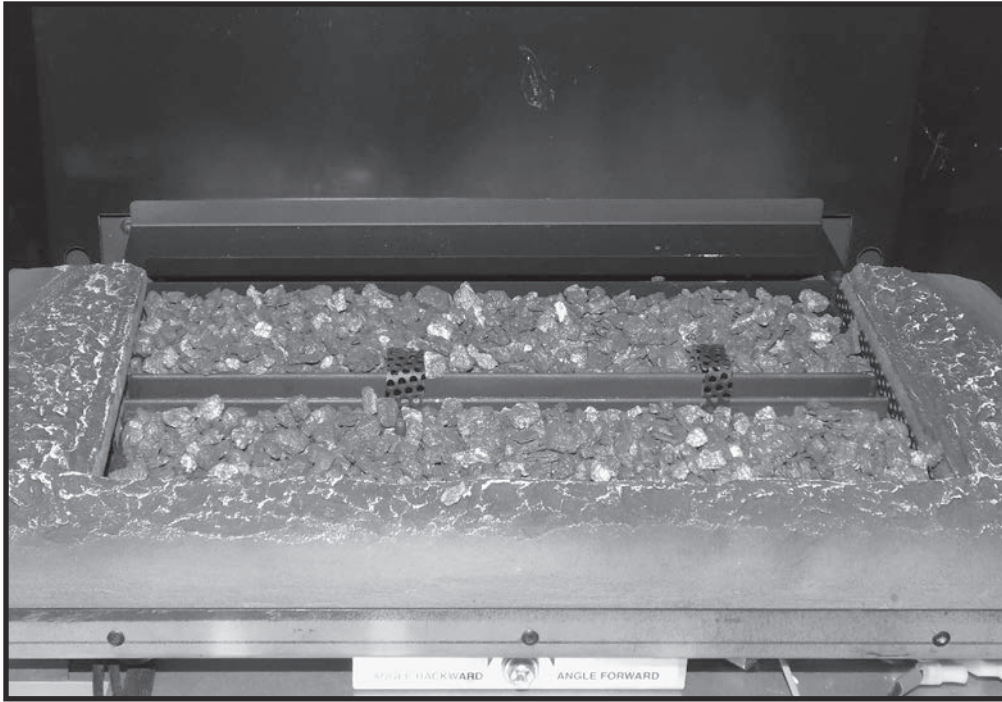

Figure 93: Ember pieces in burner tray.
6. Fill the burner trays with enough ember material to cover the bottom of the burner trays (Figure 93).